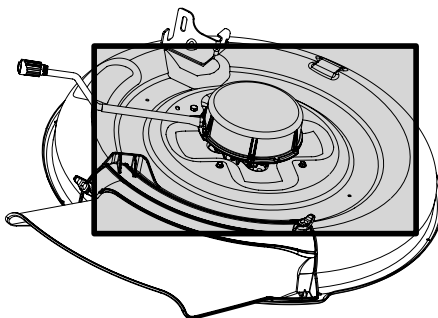

Figure 4-1
- Clean the top of the rider deck. See Figure 4-1.